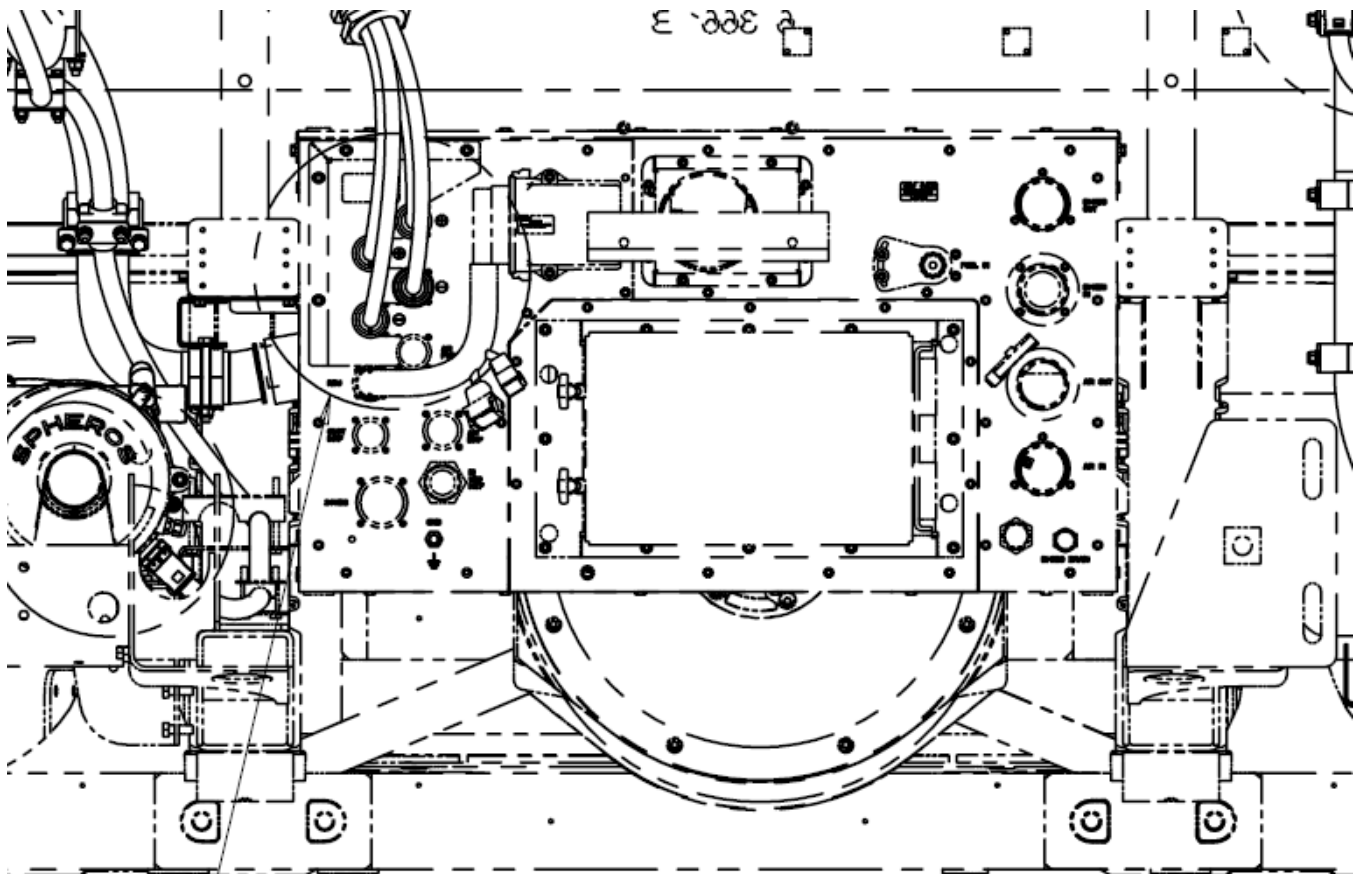

Figure 26: Fuel Cell Engine Compartment location
99. Remove cable connection detailed in Figures 26 and inspect pins for damage and loose connections.